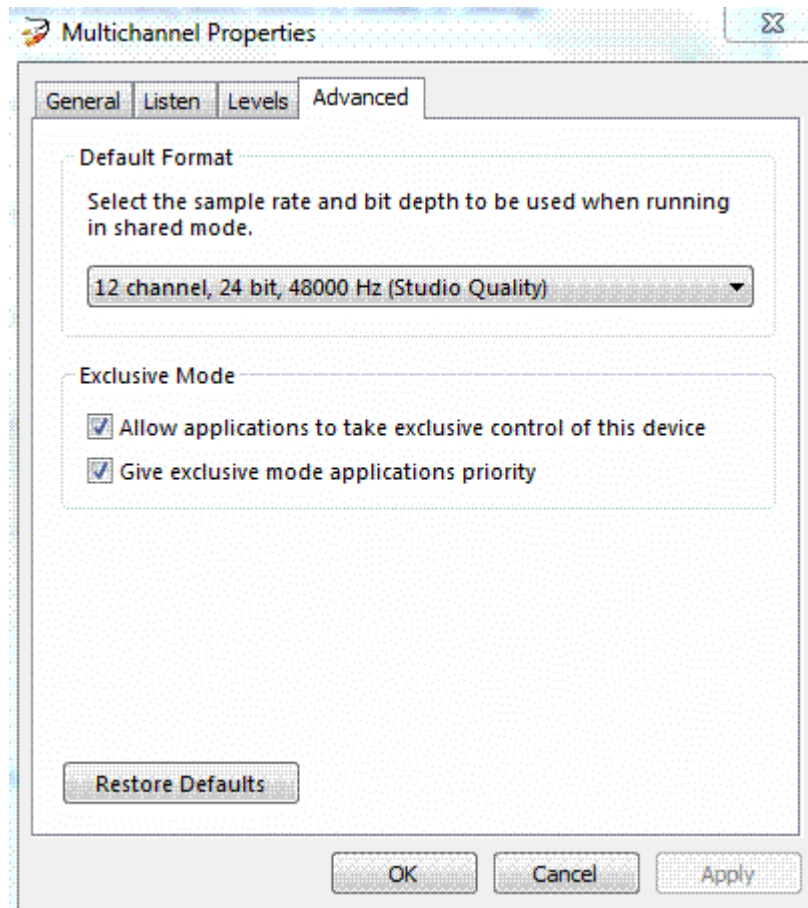

Figure F5. Multichannel Properties Advanced tab (recording).
- Click Properties and select the Advanced tab. The display should appear as shown in Figure F5.